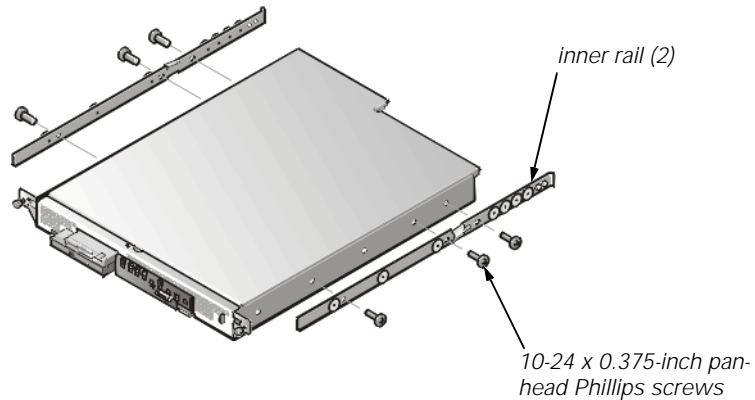

Figure 17. Installing the Inner Rails
1. Place the computer on its side (see Figure 17) on a piece of foam or cardboard (to prevent damage to the computer) while you install the inner rails to the sides of the system.
2. Secure each inner rail to the side of the chassis with three 10-24 x 0.375-inch pan-head Phillips screws (see Figure 17).